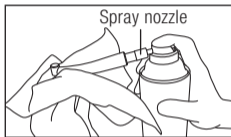

Fig. 21
- ③ Insert the spray nozzle into the rear of the handpiece while holding the head of the handpiece with a cloth etc. (Fig. 21).